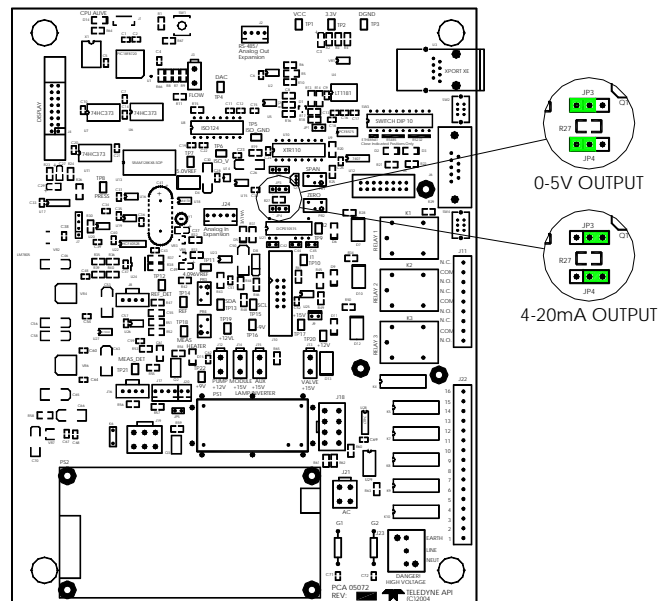

Figure 5-3: Main board – Analog Output Configuration
1. Ensure that the jumpers on the board are set to current. Refer to FIGURE 5-3